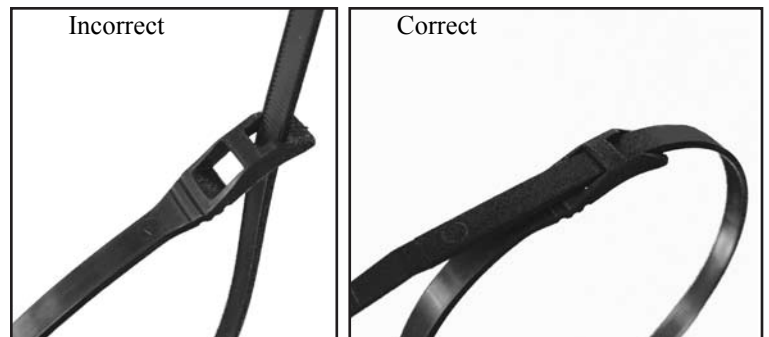

Figure 12
Step 2. Position the gun rest bar pad as shown in **Figure 12**. Use two cable ties to secure the pad. Note the **Incorrect and Correct** way of attaching. Pull the cable ties snug and trim off the excess. Rotate the clasp to the underside of the pad.